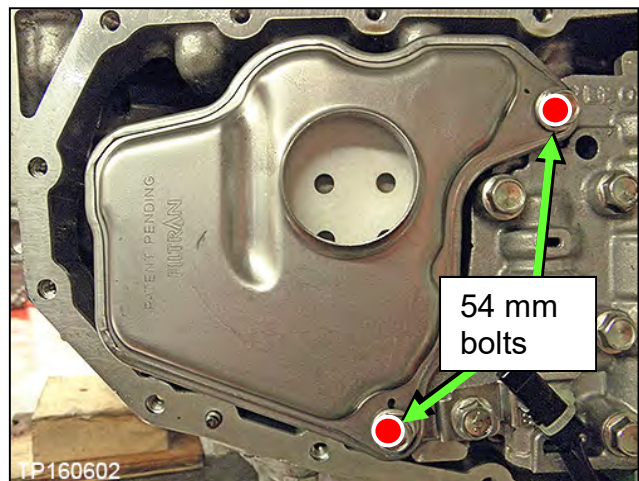

Figure 170
124. Install the new oil strainer with its new O-ring seal with two (2) bolts (Figure 170).